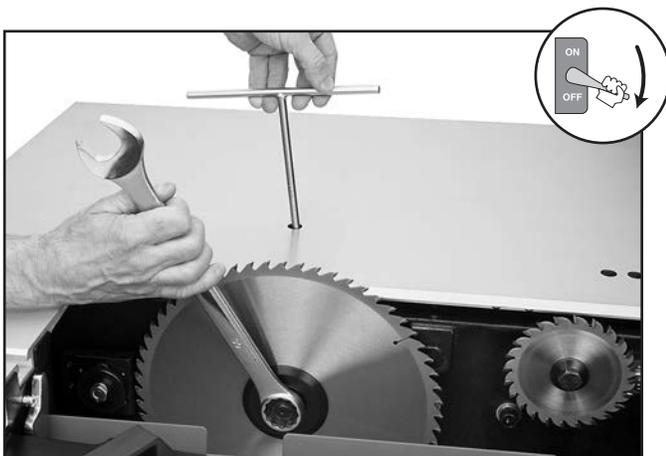

Figure 91. Loosening the main blade arbor nut.
5. Insert the provided T-handle wrench through the table top hole shown in **Figure 91** and into one of the holes in the main blade pulley under the table top. This will keep the blade arbor from rotating during the next step.